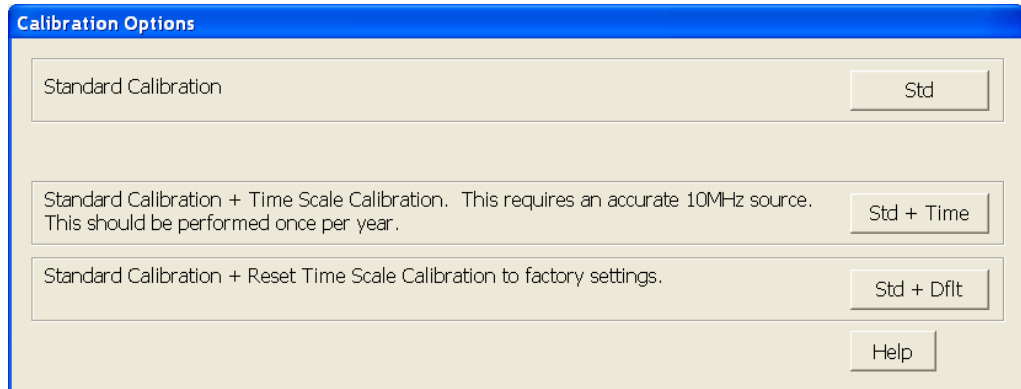

Figure 45 Time Scale Calibration Dialog box
- d During the calibration of channel 1, if you are prompted to perform a Time Scale Calibration, as shown in Figure 45 below.